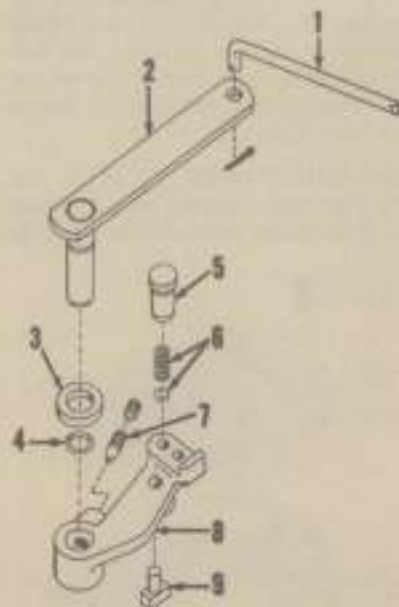

Fig. 141 — Exploded view of the belt pulley shifter (8) and the associated parts.
221. The belt pulley drive gear (8—Fig. 142) is located on the engine clutch shaft. If necessary to renew the gear, proceed as follows: Remove belt pulley unit as outlined in paragraph 218, split the tractor between engine and torque housing as outlined in paragraph 151 or 152, and remove the clutch release fork and bearing. Remove the left side sheet (panel) from below fuel tank, disconnect the belt pulley shifter rod (1—Fig. 141) and remove locking screw and set screw (7), shifter lever (2) and shifter (8). Remove the seal retainer (1—Fig. 142) and withdraw shift collar (5). Extract snap ring (6); then withdraw the spacer (7), gear (8)
When reinstalling the shifter (8—Fig. 141), the spring retainer (5) can be driven up to allow the detent ball (6) to be installed after the shifter is installed. Then, drive retainer back in place.